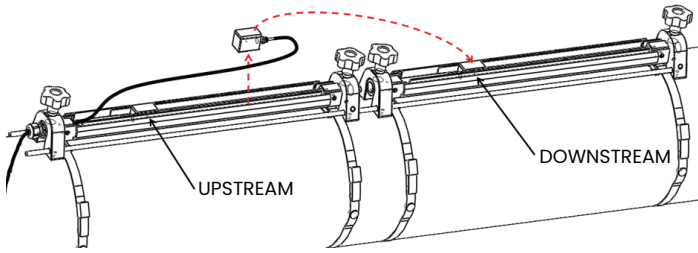

Figure 16: Moving the downstream transducer
- b. Remove the downstream transducer from the first fixture (see figure 16 below), disconnect the transducer cable, and route the cable into the second fixture. Then, install the downstream transducer into the second fixture and reconnect the transducer cable. If you are using solid couplant, apply it to both transducer faces. Then, rotate the transducers back onto the rail.